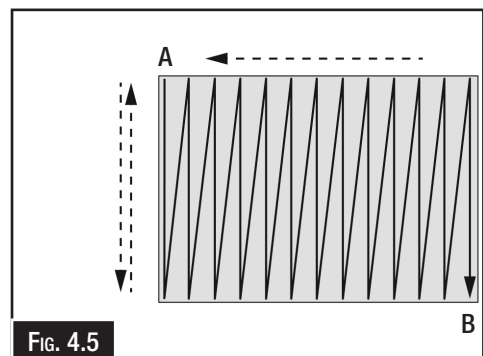

FIG. 4.5
7. When the wheels reach point B, feed the workpiece in the opposite direction and return to point A. (Fig. 4.5)